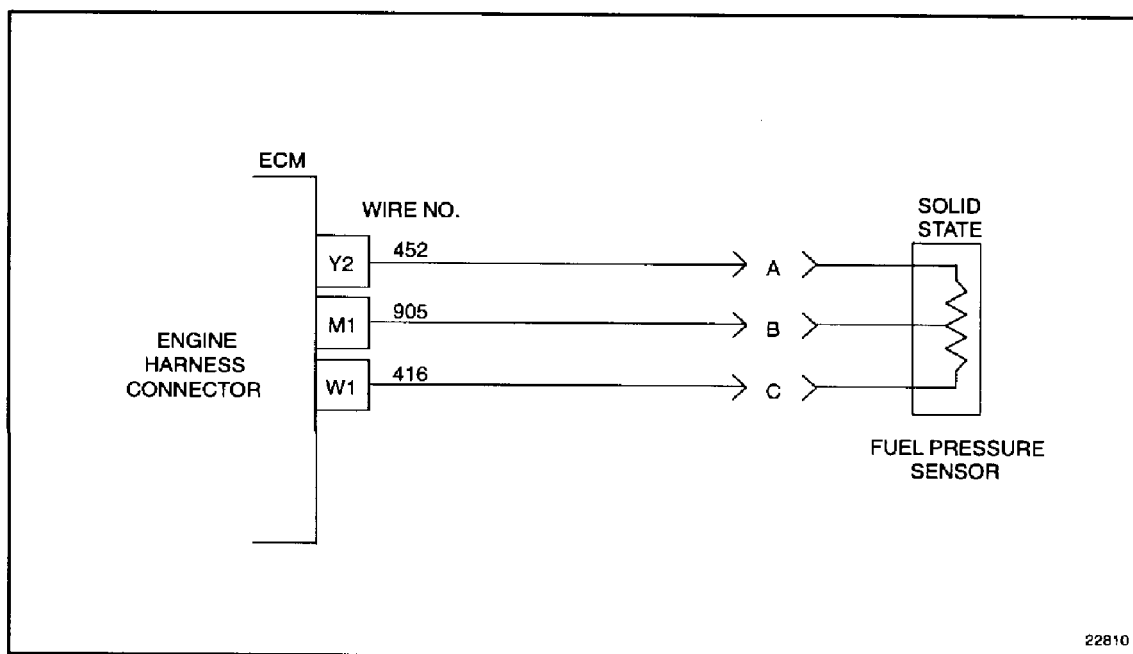

Figure 38-3 Engine Harness Connector to Fuel Pressure Sensor
4. Measure voltage on FPS harness connector, socket C to socket A. See Figure 38-3.